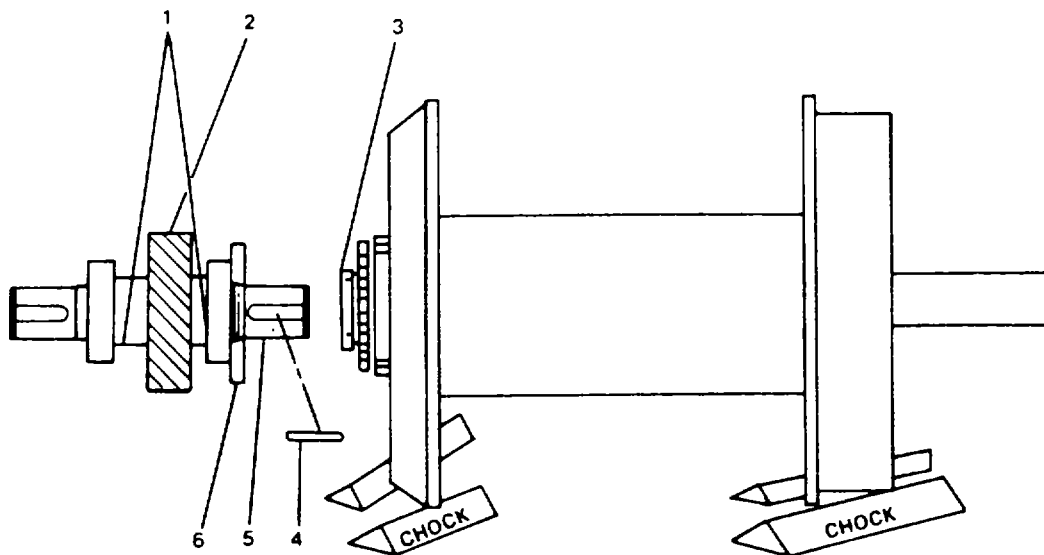

FIGURE 4-19. Lifting Points Low Speed Gear Assembly.
- (6) Position spool and low speed gear assembly in a clear area for disassembly.
- (7) For disassembly of spacer pillow block end refer to DISASSEMBLY procedures, step f.
y. Low Speed Gear Assembly. (FIGURE 4-19)
- (1) Attach lifting device and sling (1) to lifting points on low speed gear assembly (2) and take weight off spool (3).
- (2) Separate low speed gear assembly from spool.
- (3) Remove machine key (4) from winch shaft (5).
- (4) Position low speed gear assembly on a clean flat surface for disassembly.
- (1) Install oil seal (12) on winch shaft (16).
- (2) Install bearing retainer (13) on winch shaft.
- (3) Engage bearing retainer (13) over oil seal (12).
- (4) Maintain adequate clearance between low speed gear assembly and bearing retainer (2, 6, FIGURE 4-19) to facilitate installation procedure.
- (5) Remove tape from keyway on winch shaft.
### c. Low Speed Gear Assembly. (FIGURE 4-19)